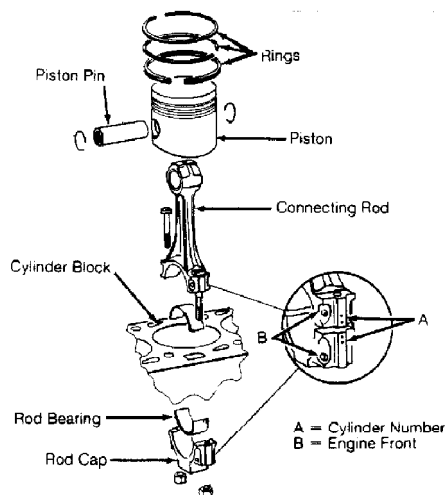

Fig. 15: Piston, Rod & Rings
Ensure piston, rod and rod caps are marked with matching cylinder number prior to removal. Ensure engine front arrow is marked on top of piston. See Fig. 15. Pistons and rods are to be replaced in sets of 4. Rod cap bolts and nuts must be replaced after removing or loosening.
2) Measure ring end gap. Measure ring side clearance with piston. If not within specifications, replace as necessary. See ENGINE SPECIFICATIONS at end of this article. Install rings on piston with "TOP" mark facing upward. Recessed edge on outside of center ring must face piston pin (down). Position ring ends as shown. See Fig. 15.
Ensure piston and rod are properly marked. Remove both circlips from pin bore groove. Use Piston Pin Replacer (VW 207C) to remove and install the piston pin. If pin is too tight, heat piston to 140°F (60°C). To install, reverse removal procedure. Ensure rod is properly positioned with piston. See Fig. 15.